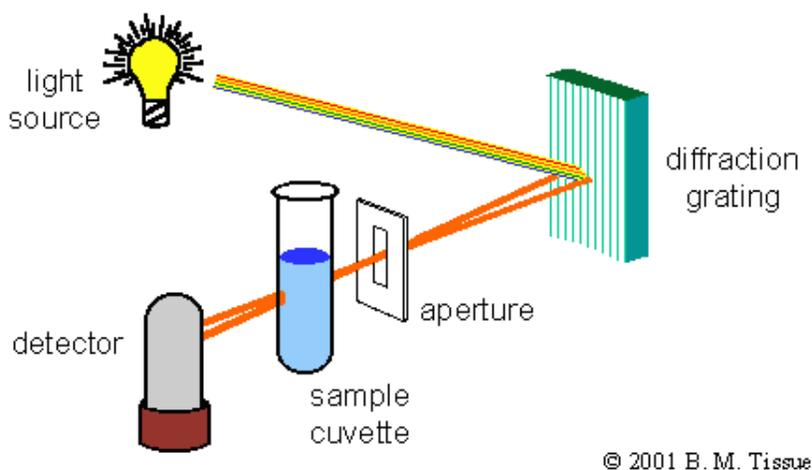

Figure 1. Schematic of a single-beam UV-Vis spectrophotometer. Image available at <http://www.files.chem.vt.edu/chem-ed/spec/uv-vis/singlebeam.html>
Several instruments can be used to perform a spectroscopic analysis. In simplest terms, spectroscopy requires an energy source (such as lamp that gives off certain wavelengths of light, or a laser) and a device for measuring the change in the energy source after it has interacted with the sample (often a spectrophotometer or interferometer).¹ In this experiment, we will employ a specific type of spectrophotometer called single-beam UV/vis spectrophotometer, which can provide both ultraviolet (UV) and visible (vis) light. The idea is to shine visible light (wavelength range between 400 to 800 nm) from a *source*, split it into component wavelengths using a *monochromator* (mono means one; chromo means color), select a narrow band (or color) of wavelength through a slit, then pass the monochromatic light to a solution of a colored compound, such as FD&C Blue 1 dye (Figure 1). The intensity of light from the monochromator (I_0) is reduced as it passes through the sample solution (I) due to the presence of light-absorbing species, in this case the dye. The ratio between light intensities, I/I_0 , is related to a property of light called **absorbance, A**.